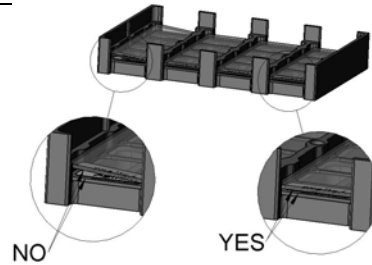

FIGURE 6
6. When all arrays have been placed, make sure all assemblies are laid flat against the base plate. See Figure 6 for examples of proper and improper placement.